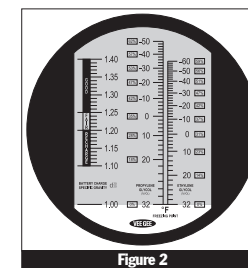
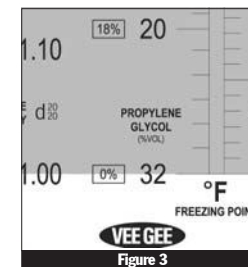

Figure 2
Figure 3
- 5 When the refractometer scale is viewed through the eyepiece, the upper field of view will be seen as blue and the lower field will be seen as white (Figure 2). Confirm that the boundary line crosses the scale at 32°F/1.00 S.G. (Figure 3).